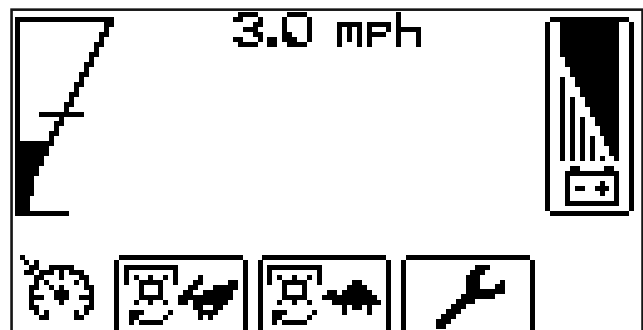

Figure 5-9
- While maintaining the desired speed press the cruise control button  on the dash then release the forward drive pedal  to activate the cruise control. When the cruise control is active the cruise control icon  will appear on the bottom left of your screen. See Figure 5-9.